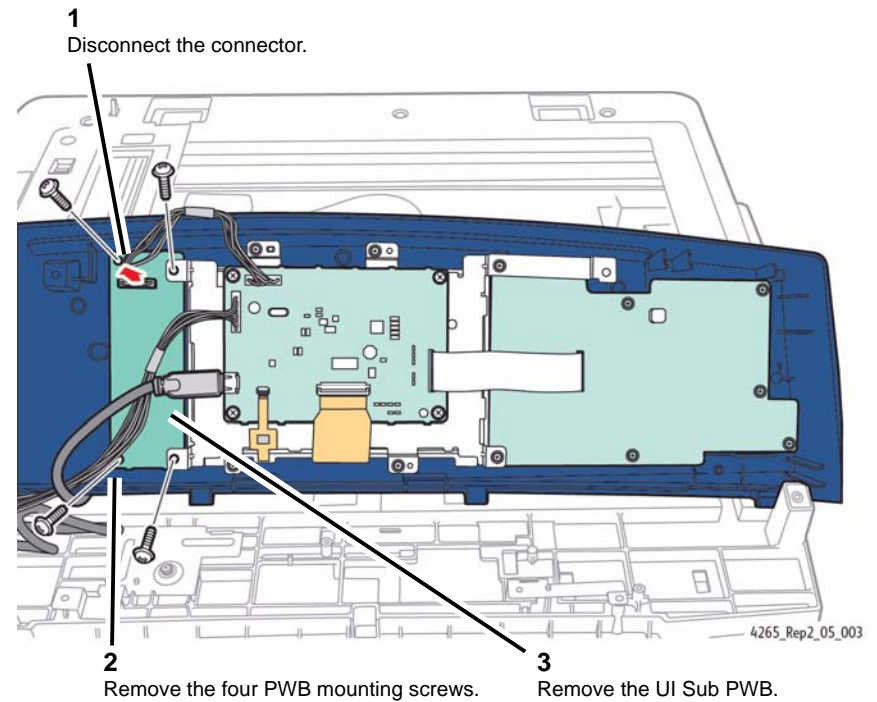

Figure 3 Removing the User Interface Sub PWB
3. Remove the User Interface Sub PWB (Figure 3).